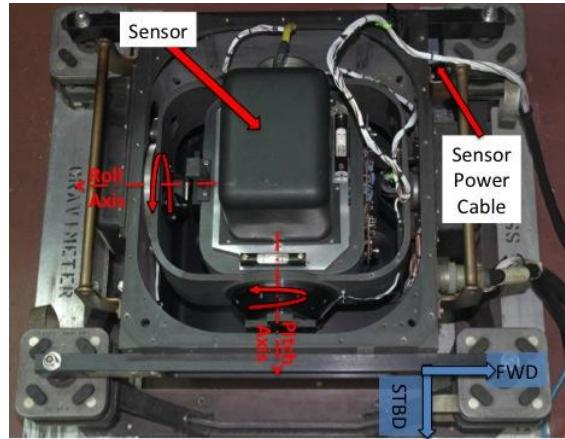

Figure 4. Stabilization Table with top cover removed
- Figure 4. Stabilization Table with top cover removed
The stabilization table (Figure 4) is the platform on which the sensor sits while in operation. As described in Section 1.3, the table is gimbaled on the ship's pitch and roll axes and compensates for the ship's motion. The stabilization table is typically firmly bolted to a welded plate somewhere close to the ship's roll axis, and as close to its center-line as possible. Two large cables connect the CPS to the Stabilization table. The stabilization table may also be referred to as the "(double) gimbaled table", "sensor table", "sensor platform" or simply "table" or "platform".